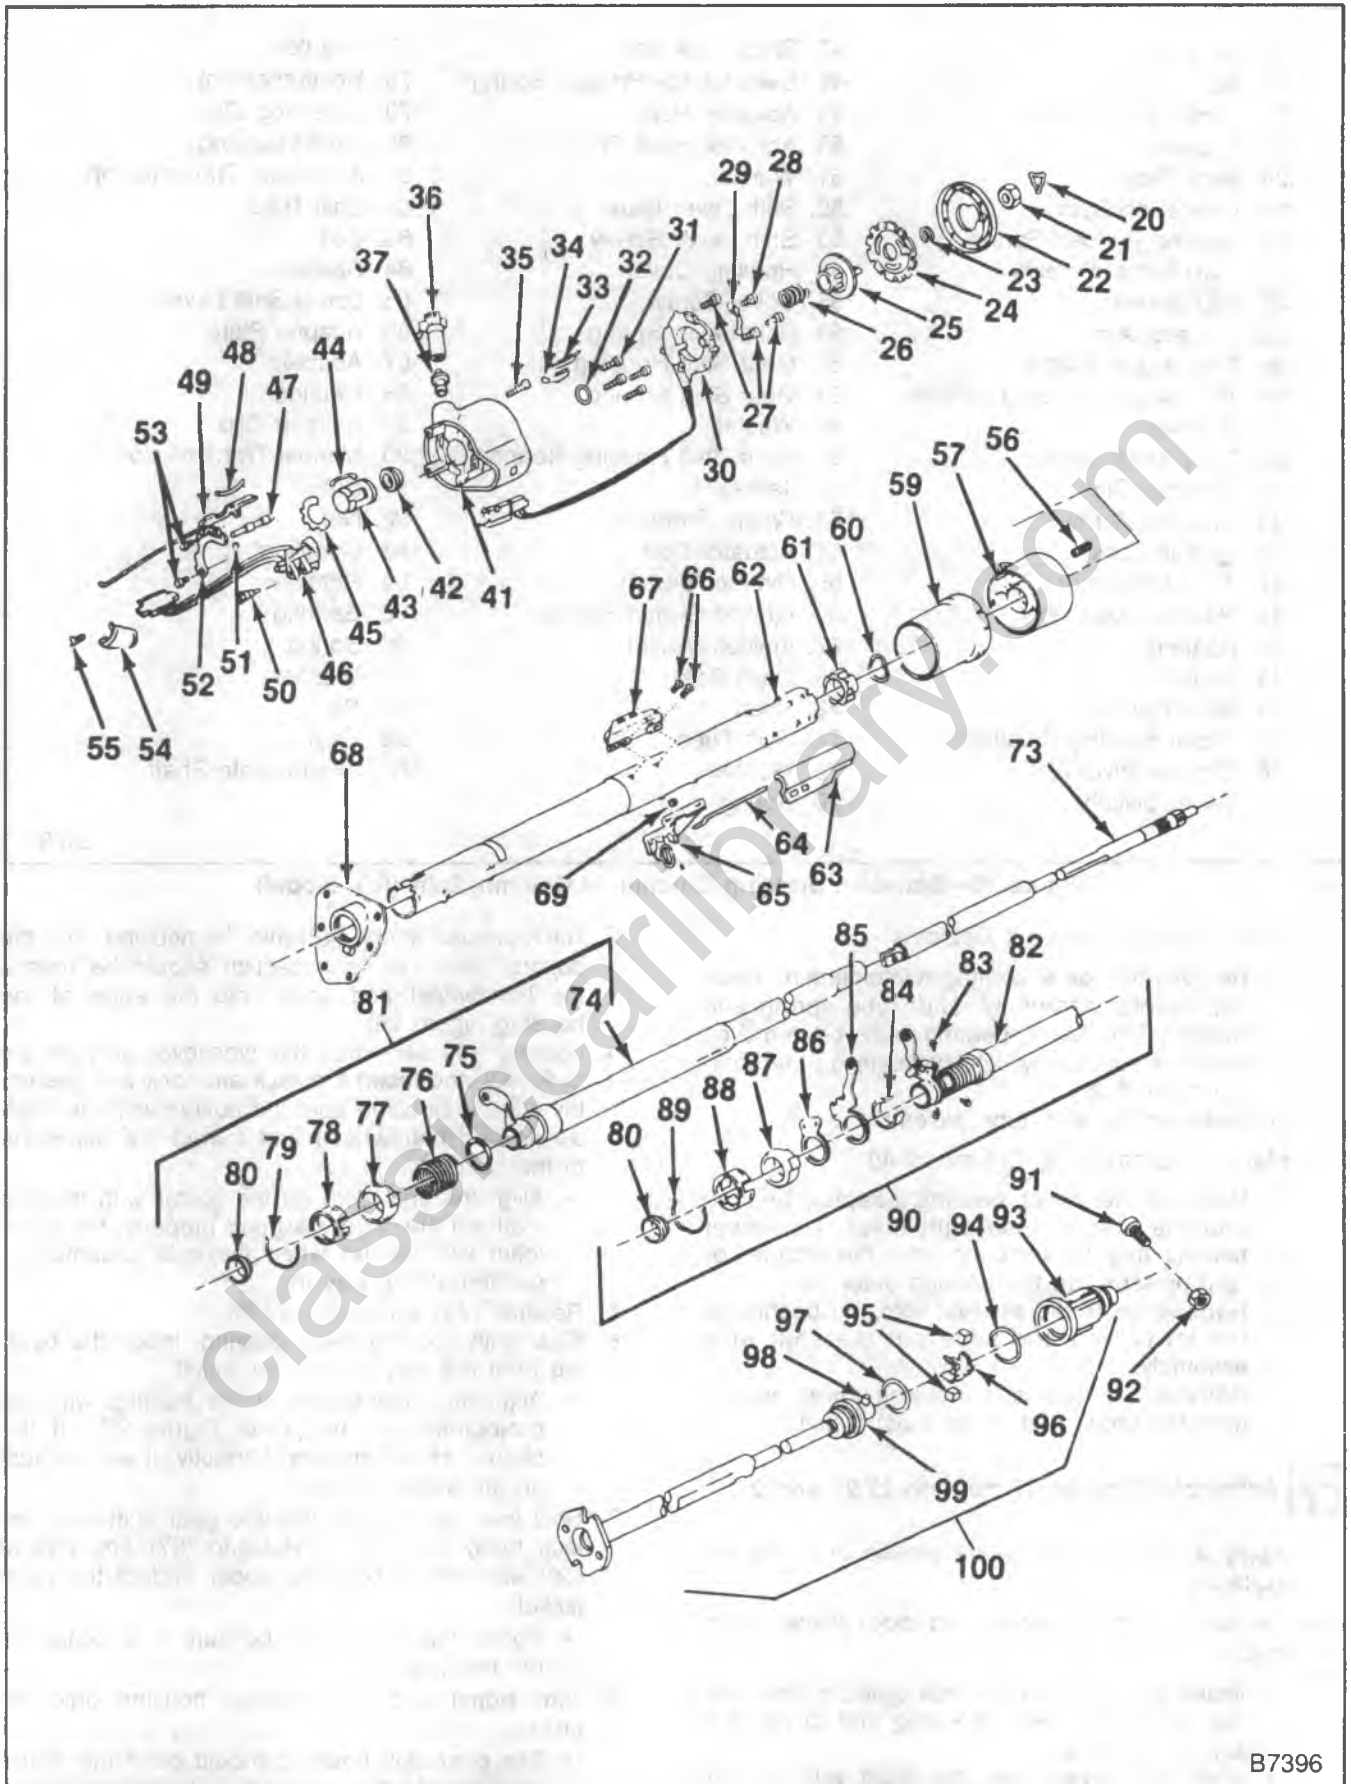

Figure 17—Standard Steering Column — Column Shift (R/V Model)
2. Tone alarm switch assembly (33) (figure 17).
Disassemble (Figure 17 through 25)
Assemble (Figures 17 through 22,26 and 27)